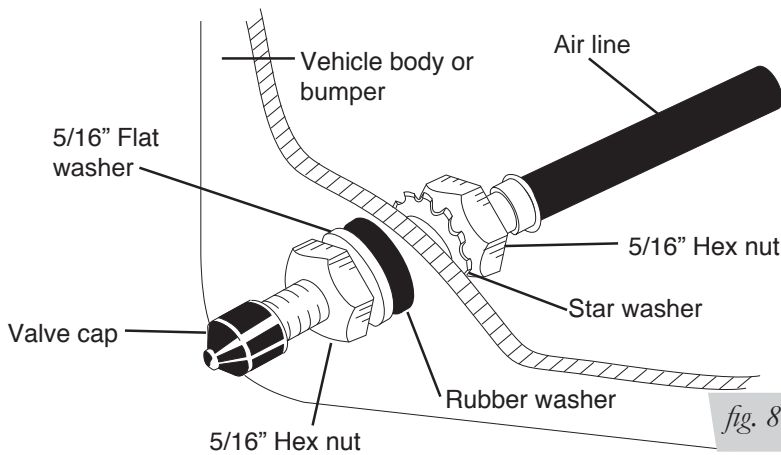

fig. 8
- Place a 5/16" nut and star washer on the air valve. Leave enough of the inflation valve in front of the nut to extend through the hole and have room for the rubber washer, flat washer, and 5/16" nut and cap. There should be enough valve exposed after installation—approximately 1/2"— to easily apply a pressure gauge or an air chuck (fig. 8).